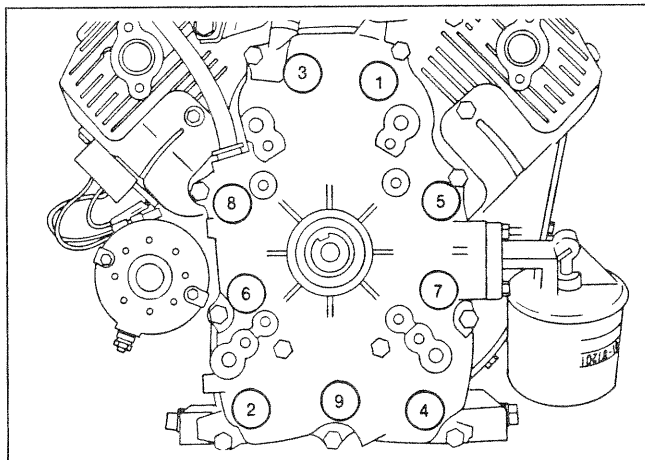

Figure 111. Cover Plate Torquing Sequence
Install the crankcase cover as follows (Figure 111):
- Torque cover bolts in the sequence shown (Figure 111) to 17 N-m (150 inch-pounds).